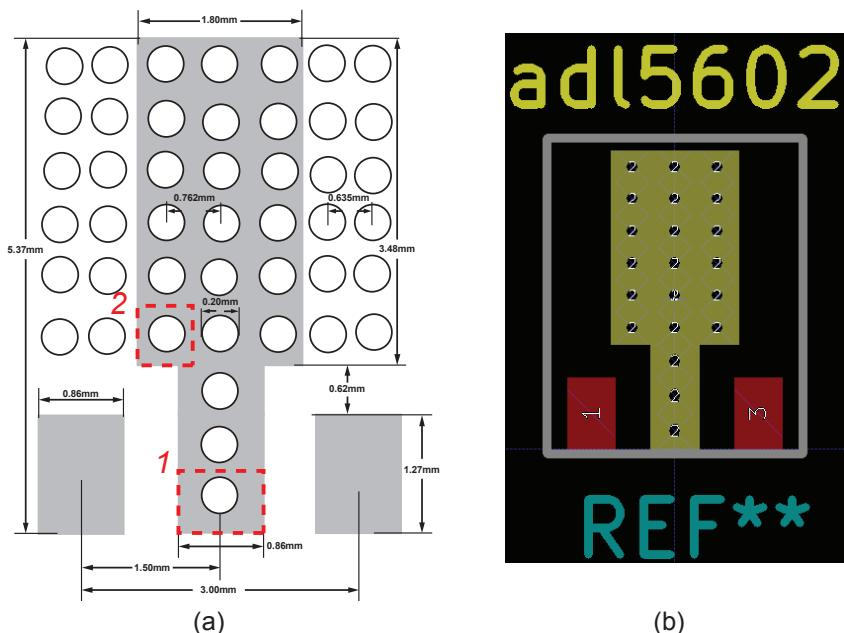

Figure 40: (a) Datasheet recommended land pattern for ADL5602 IC. Source: ADL5602 datasheet. (b) Footprint in KiCad.
The footprint of the ADL5602 IC will follow its recommended land pattern in its datasheet. It is copied in Fig. 40 for easy reference. The large exposed pad in the center and the many vias connects serve two purposes: 1) providing a low-impedance electrical path to the ground plane underneath; 2) providing a low thermal impedance path so that the heat generated in the IC could be well dissipated.
Pad 1 and 3 are straightforward to generate in KiCad. Creating of pad 2, the large ground pad, requires a little bit of guidance. Our strategy here is to draw each via as a separate pad with rectangular pad area and a circular drill. The complex land pattern consists of two unit cell types, both labeled in Fig. 40. Pad type 1 has a width of 0.86 mm and a height of  $(0.62 + 1.27)/3 = 0.63$  mm. Pad type 2 has a width of 0.762 mm and a height of  $(5.37 - 0.62 - 1.27)/6 = 0.58$  mm. The drill diameter for both pad types is 0.20 mm.
5. The final footprint is shown in Fig. 40-b. A courtyard outline has also been added.